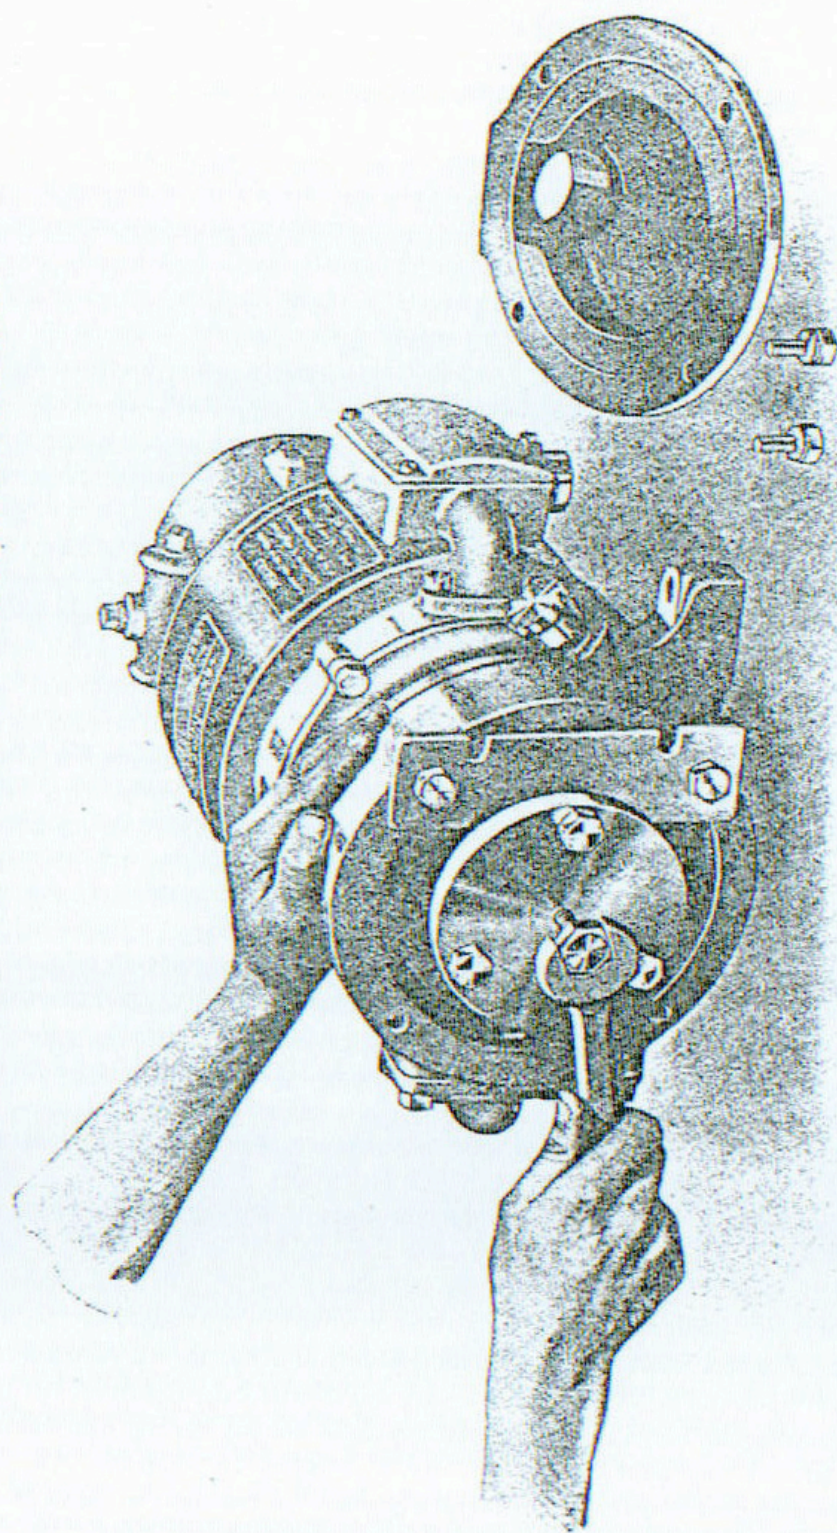

FIG. 5.
1. Remove steam pipe and exhaust-end cover (13).
2. Remove split-pin (10) in bucket wheel nut (9) and attach the wheel-locking strap, using two of the bolts from the exhaust end cover, to prevent the wheel from turning. Then apply the plate
extractor by screwing the 3 bolts provided into the corresponding holes in the bucket wheel (7). Tighten the "Tommy" screw against the shaft centre, and give the head a sharp blow with a copper hammer. The bucket wheel may then be removed. (*See Fig. 5.*) Remove the key (8) from the shaft.
3. Remove the turbine-end casing (12) noting that flanges must be cleaned and joint renewed when replacing.
4. Remove the water-deflector (57) and the soft-steel pin (58) which locates it on the shaft.
5. Apply the extractor to the housing cap (35) and remove cap.
6. Slacken lock-screw and remove bearing-nut (5) and bearing washer (6) with the peg spanner.
7. Apply extractor to ball-bearing (4) and remove bearing, being careful not to damage oil ring.
8. When it is desired to remove the turbine-end housing (33) first remove the oil sleeve (42) from shaft. If tight, it may be removed with the housing.